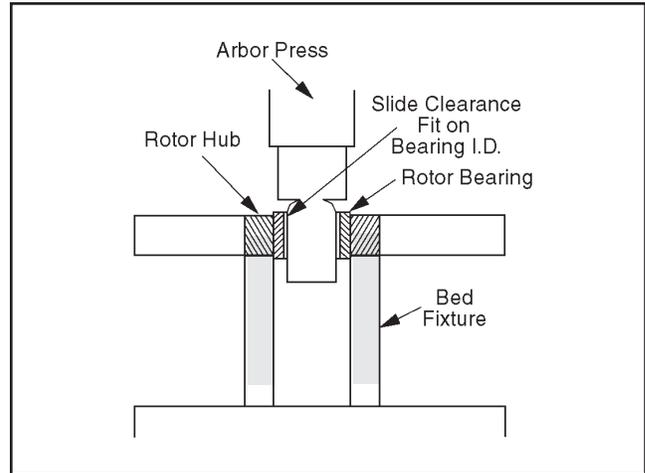

Figure 13 – Tungsten Carbide Rotor Bearing Removal
A. With the proper tool and fixture (see Figure 13), the old rotor bearing may be forced out of the rotor hub with an arbor press. Care must be taken in the